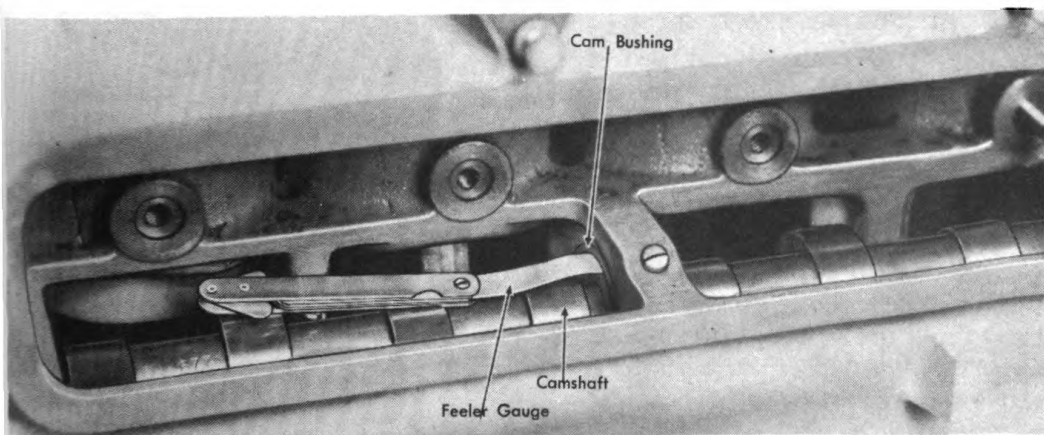

Figure 125. Checking Camshaft Bushing.
20. Check the camshaft bushing clearance with a feeler gauge between each of the four bushings, which should be between .002" and .0035". See Figure 125. If this is excessive, the bushings must be replaced. The instructions for bushing replacement are given in paragraph 11.
The camshaft runs in four bronze bushings which are pressed into the crankcase. The desired camshaft bearing clearance should be between .002" and .0035". (See Figure 125.) If the clearance is more than .005, replace the bushings. The bushings are of precision type and do not require reaming after being pressed into the case.